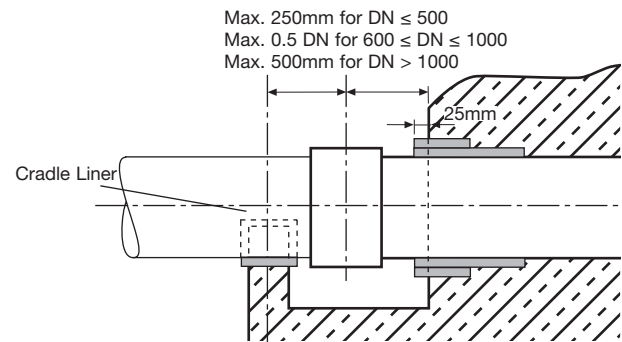
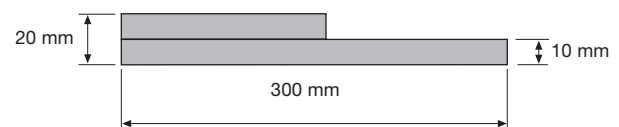

Figure 6-4 Alternate B: Rubber wraps
Figure 6-5 Rubber wrap configuration – Rubber shall have 50-60 Shore A hardness
Where A is not possible, wrap (**Figure 6-4**) a band (or bands) of rubber (**Table 6-1 and Figure 6-5**) around the pipe prior to placement of any concrete such that the rubber slightly protrudes (25mm) from the concrete. Lay out the pipeline so the first completely exposed coupling joint is located as shown in **Figure 6-4**. Precautions must be taken to minimize the settlement of the reinforced concrete structure or pipe by providing an adequate foundation. Differential settlement in the pipe will cause stresses in the pipe and may cause pipe failure.
- 1 Position as shown in **Figures 6-4** and **6-5**.